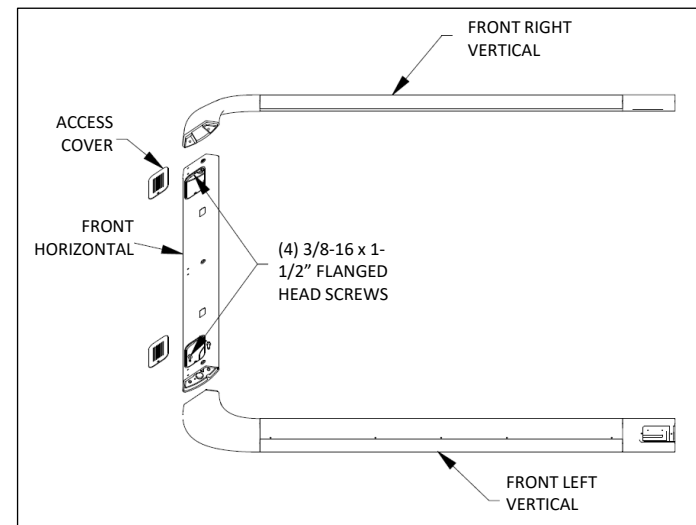

Fig. C1 – assemble horizontal beam to verticals
2. Using flange head screws, attach horizontal beam to verticals. See Fig. C1. Do not overtighten.